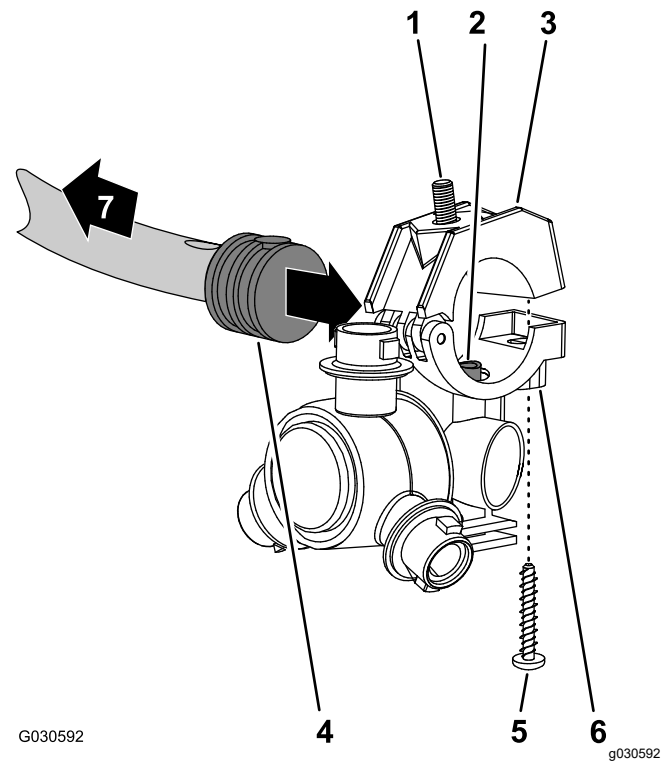

Figure 77
1. Working with the sprayer nozzle that you removed in 12 Removing the Sprayer-Nozzle Hoses for the 3-Section System \(page 32\), align the transfer tube in the saddle of a sprayer nozzle (Figure 77) with the hole in the side of the single barbed-hose shank (1/2 inch).
2. Close the upper clamp half around the barbed-hose shank and secure the clamp half and spray-nozzle body (Figure 77) with the stainless steel screw (#12 x 1-1/4 inches); torque the stainless steel screw to 226 to 282 N·cm (20 to 25 in·lb).